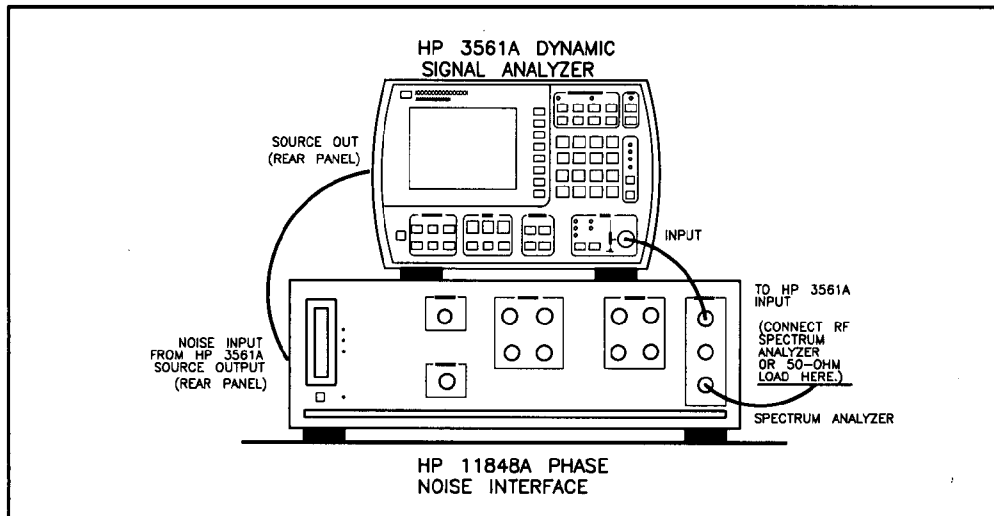

Figure 25. First Option 1 Calibration Setup
7. Connect the cables as prompted on the display and as shown in Figure 25.